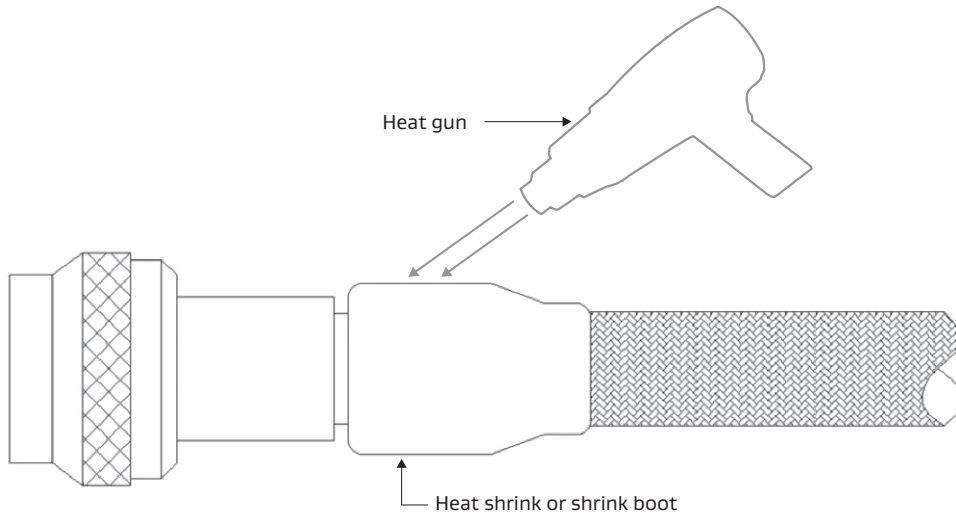

Figure 20: Applying heat to the heat shrink or shrink boot
5. Using a heat gun, apply heat to the heat shrink or shrink boot at the recommended temperature and duration from the manufacturer (Figures 20 and 21).